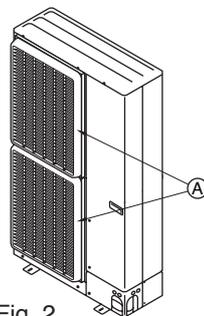

Fig. 2
- (2) Install an optional air outlet guide and air guide if the unit is installed in a location where strong winds from a typhoon, etc. may directly enter the air outlet. (Fig. 2)
### • Side view (Fig. 2, 3)